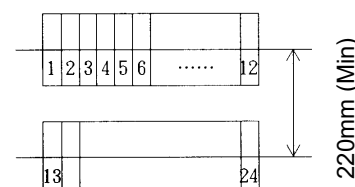

Fig. 2
② Make separation for over 220mm between units when put it vertically. Do not block the up and down opening part. (Fig.2)